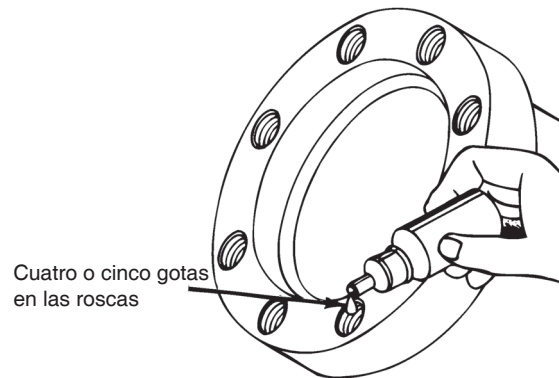

Figure 4.9
2. Apply four or five drops of Meritor liquid adhesive Loctite 638 or 680 or equivalent inside each threaded hole or bore. Do not apply adhesive directly to the fastener threads. Figure 4.9.